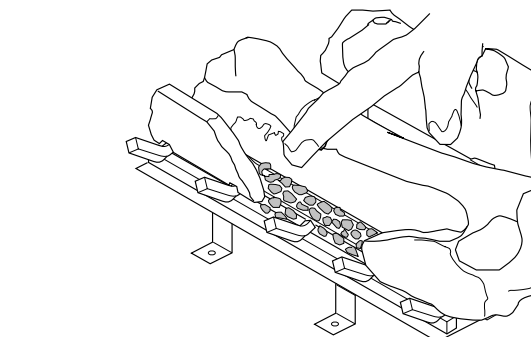

Figure 58 - Placing Ember Material on Burner
6. Pull ember material apart into pieces no larger than a dime. Place these pieces loosely and sparingly directly onto the exposed section of the front burner and along the space between the burner and grate prongs (see Figure 58). This will create the glowing ember appearance as the flame touches the ember material. Do not block air slots by using too much ember material in one area. It is not necessary to use all of the ember material provided.